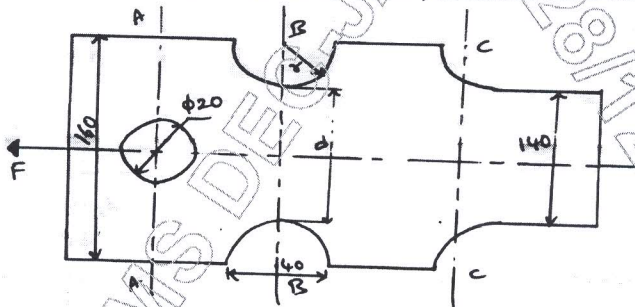

Fig.Q2(b)
b. A flat bar shown in Fig.Q2(b) is subjected to an axial load of 100 kN. Assuming that the stress in the bar is limited to 200 N/mm2, determine the thickness of bar.